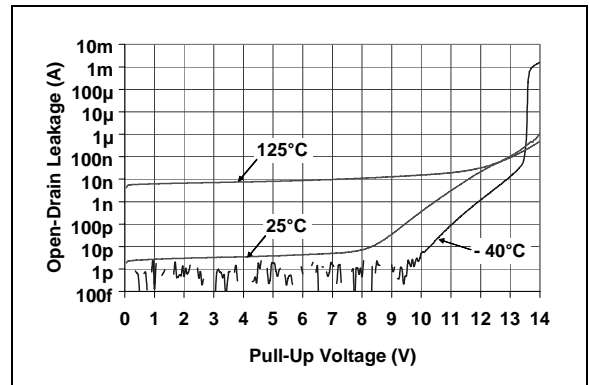

FIGURE 2-28: Open-Drain Leakage Current vs. Voltage Applied to V_{OUT} Pin (MCP111-195).
- Note 3:** This specification allows this device to be used in PICmicro[®] microcontroller applications that require the In-Circuit Serial Programming[™] (ICSP[™]) feature (see device-specific programming specifications for voltage requirements). This specification DOES NOT allow a continuous high voltage to be present on the open-drain output pin (V_{OUT}). The total time that the V_{OUT} pin can be above the maximum device operational voltage ($5.5V$) is $100\ \text{sec}$. Current into the V_{OUT} pin should be limited to $2\ \text{mA}$. It is recommended that the device operational temperature be maintained between 0°C to 70°C ($+25^\circ\text{C}$ preferred). For additional information, please refer to Figure 2-28.